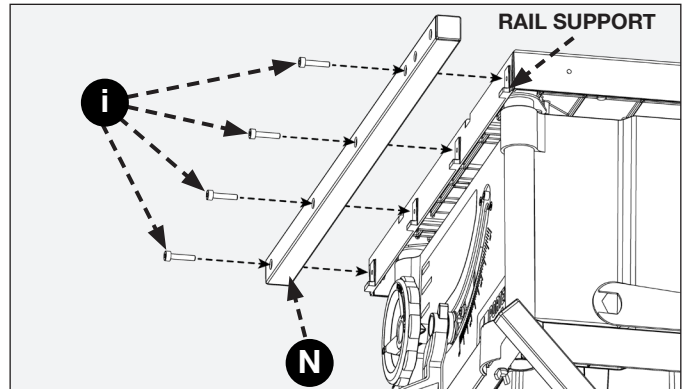

FIGURE 8
Attached fence rail (N), scale side up (16" side of scale to the right), to the front of the saw using (4) M5 x 25mm hex socket cap screws (i) as shown in Fig. 8, making sure rail is properly seated on each rail support on the front of the table.